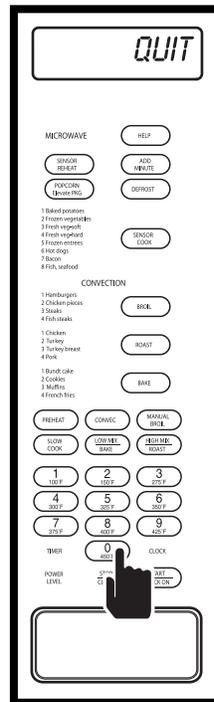

Figure 3-69.
5. Press the number 0 key. Display will flash “TO - QUIT - DEMO - PRESS - CLEAR”. (See Figure 3-69)